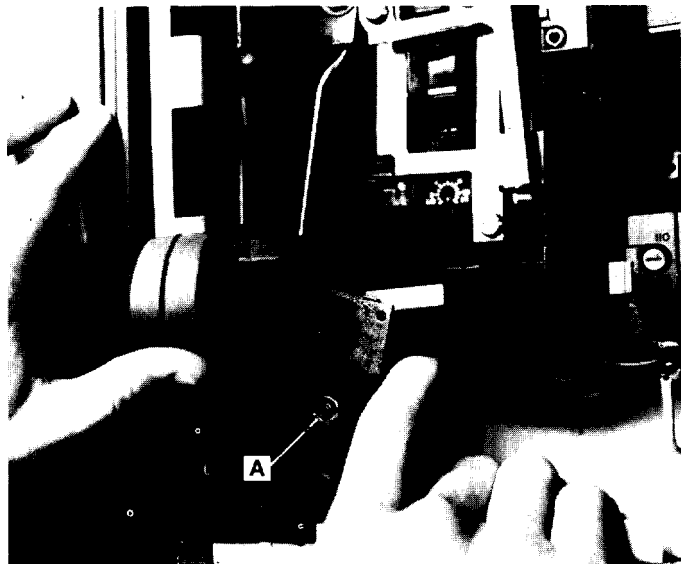

Figure 39. Operating handle and door interlocks.
All 8000-Line draw-out motor control center units are furnished with the operating handle mounted integral with the unit structure. The integral handle mechanism is equipped with an interlock arm which engages with a catch on the inside of the unit door to prevent inadvertent opening of the door when the branch circuit disconnect is switched ON. Switching to OFF, or turning access screw (A) clockwise, allows access to the unit. See Figure 39.
With the unit door open, an interlock prevents switching the branch circuit disconnect ON without first defeating the interlock. To operate any branch circuit disconnect, the interlock arm, Figure 39, must be held in a depressed position while switching the handle to the ON position.